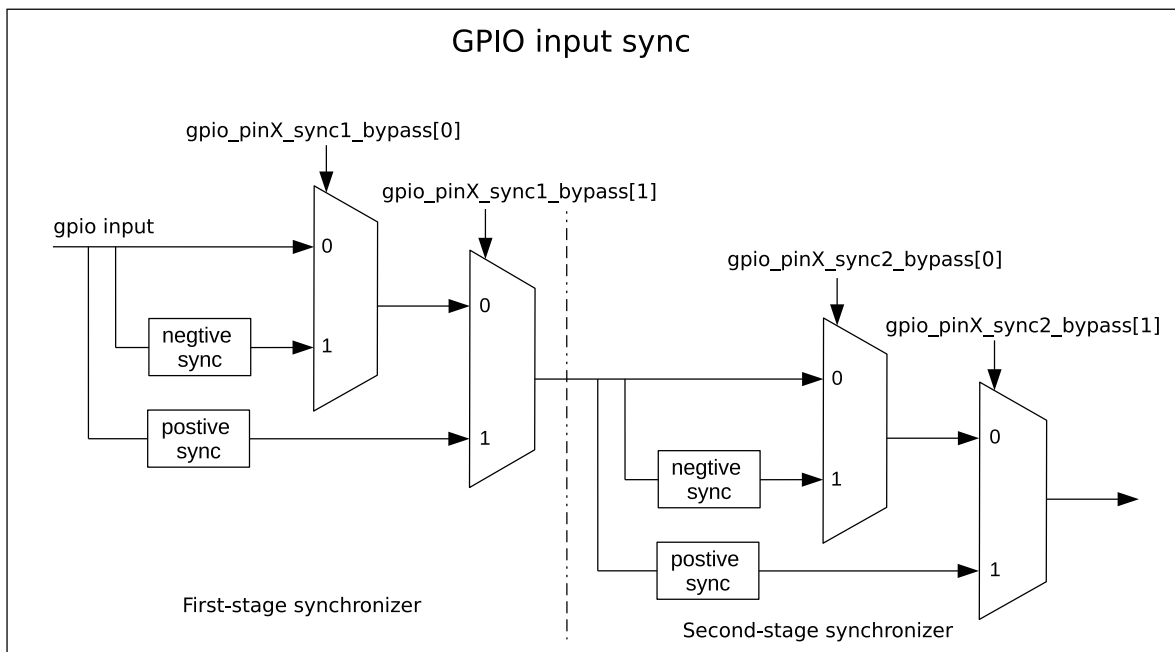

Figure 6.4-1. GPIO Input Synchronized on APB Clock Rising Edge or on Falling Edge
Figure 6.4-1 shows the functionality of GPIO SYNC. In the figure, negative sync and positive sync mean GPIO input is synchronized on APB clock falling edge and on APB clock rising edge, respectively.
- Set `GPIO_PINx_SYNC1_BYPASS` to enable input signal synchronized on rising edge or on falling edge in the first clock, see Figure 6.4-1.
- Set `GPIO_PIN $x$ _SYNC2_BYPASS` to enable input signal synchronized on rising edge or on falling edge in the second clock, see Figure 6.4-1.